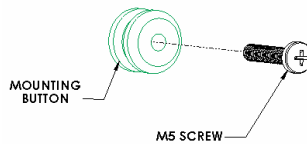
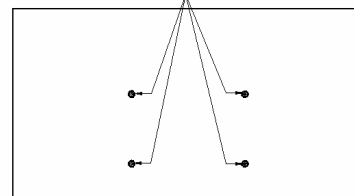

Figure 3
Figure 4
2. Attach mounting buttons to back of display using four M5 screws provided (see Figure 3 & Figure 4).